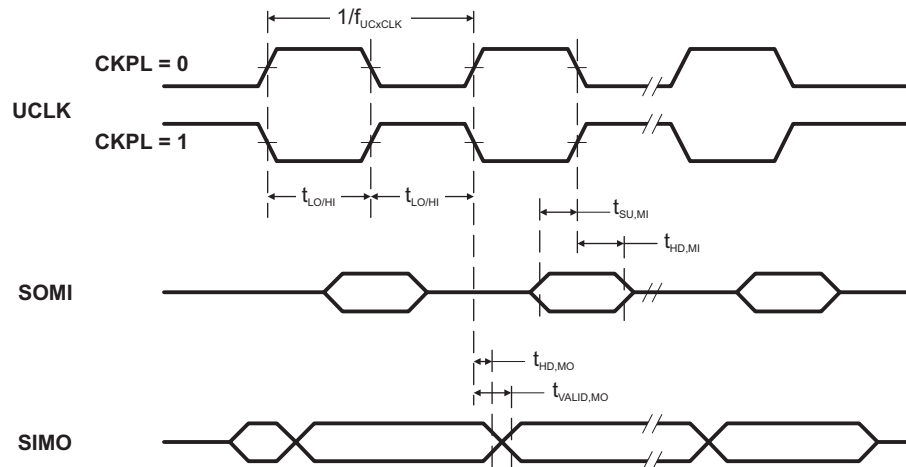
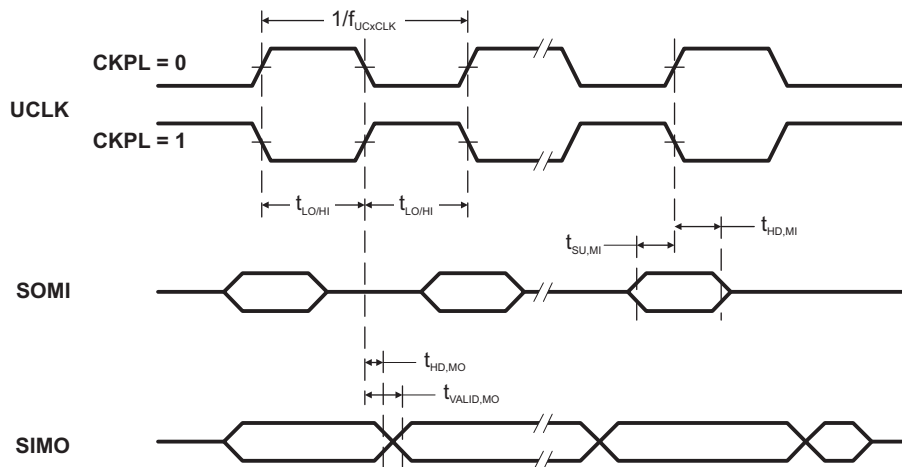

Figure 5-11. SPI Master Mode, CKPH = 0
Figure 5-12. SPI Master Mode, CKPH = 1
(see Note ⁽¹⁾, Figure 5-11 and Figure 5-12)
- (2) Specifies the time to drive the next valid data to the SIMO output after the output changing UCLK clock edge. Refer to the timing diagrams in Figure 5-11 and Figure 5-12.
- (3) Specifies how long data on the SIMO output is valid after the output changing UCLK clock edge. Negative values indicate that the data on the SIMO output can become invalid before the output changing clock edge observed on UCLK. Refer to the timing diagrams in Figure 5-11 and Figure 5-12.
- (2) Specifies the time to drive the next valid data to the SOMI output after the output changing UCLK clock edge. Refer to the timing diagrams in Figure 5-11 and Figure 5-12.
- (3) Specifies how long data on the SOMI output is valid after the output changing UCLK clock edge. Refer to the timing diagrams in Figure 5-11 and Figure 5-12.